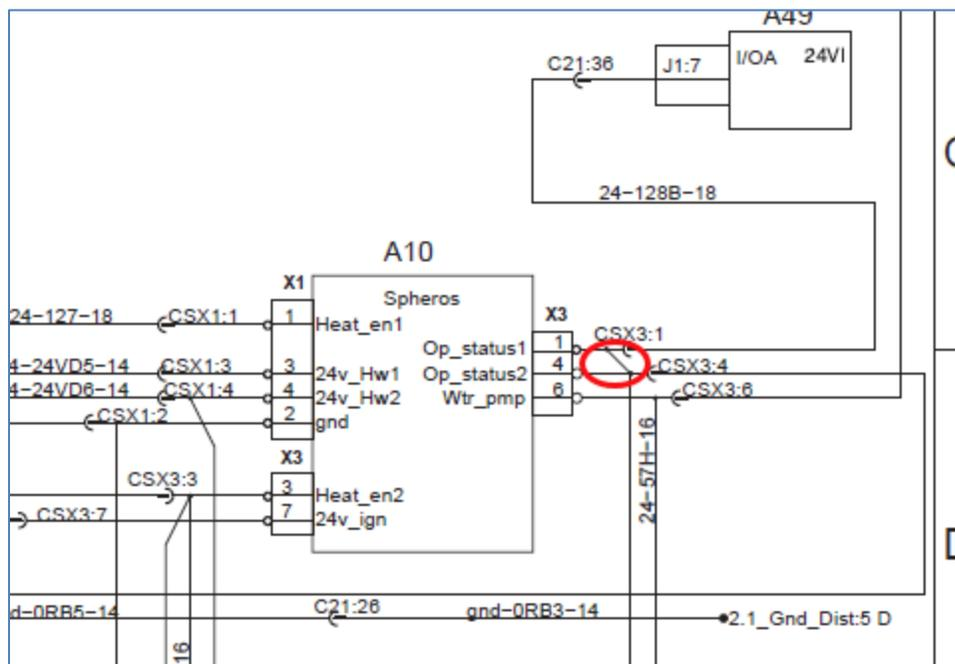

FIGURE 45
10. On the preheater harness, locate connector CSX3. Remove the jumper cable connected between connector CSX3 pin 1 cavity and pin 4 cavity (Figure 45).